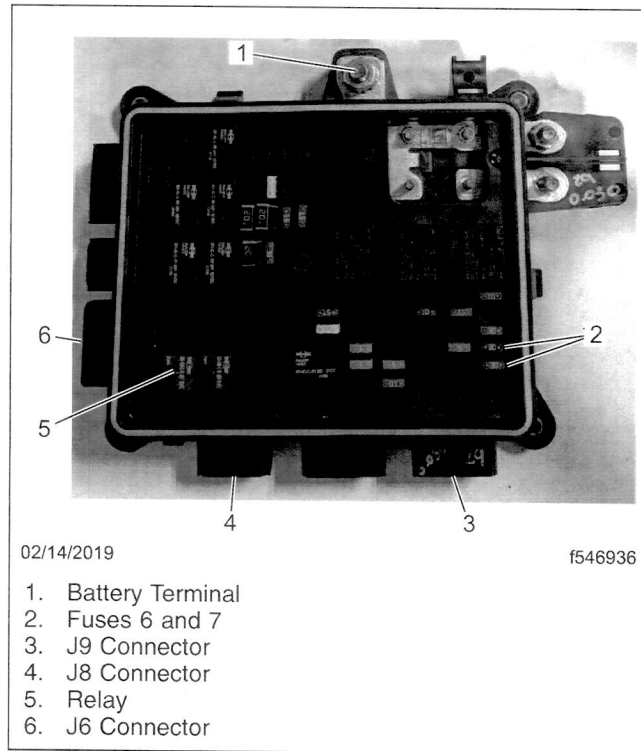

Fig. 2, PDM Components
IMPORTANT: The tester will work with a PDM connected to the vehicle or removed and placed on a work bench. If the PDM is being bench tested (PDM is not on the vehicle), ensure that 12V of power is supplied to the battery terminal. See **Fig. 2**, item 1.
5. Remove the PDM cover and locate the circuits to be tested. See **Fig. 2**.
6. Remove the two fuses and one relay from the PDM. See **Fig. 2**, items 2 and 5.
15. Remove all of the test box connectors and install the relay and fuses removed earlier. For relay and fuse locations see **Fig. 2**.